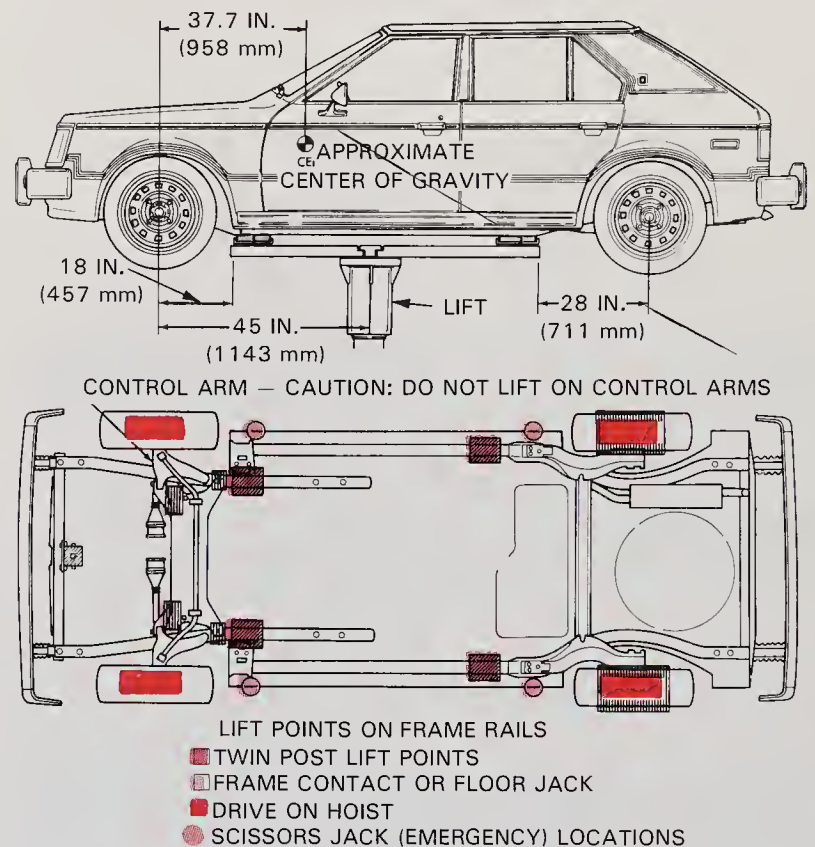

Fig. 5-3. Follow service manual directions when raising car on lift. Note specific lifting instructions for this car. (Chrysler)
2. Center the car on the lift, as described in a service manual, Fig. 5-3. Raise the car slowly!